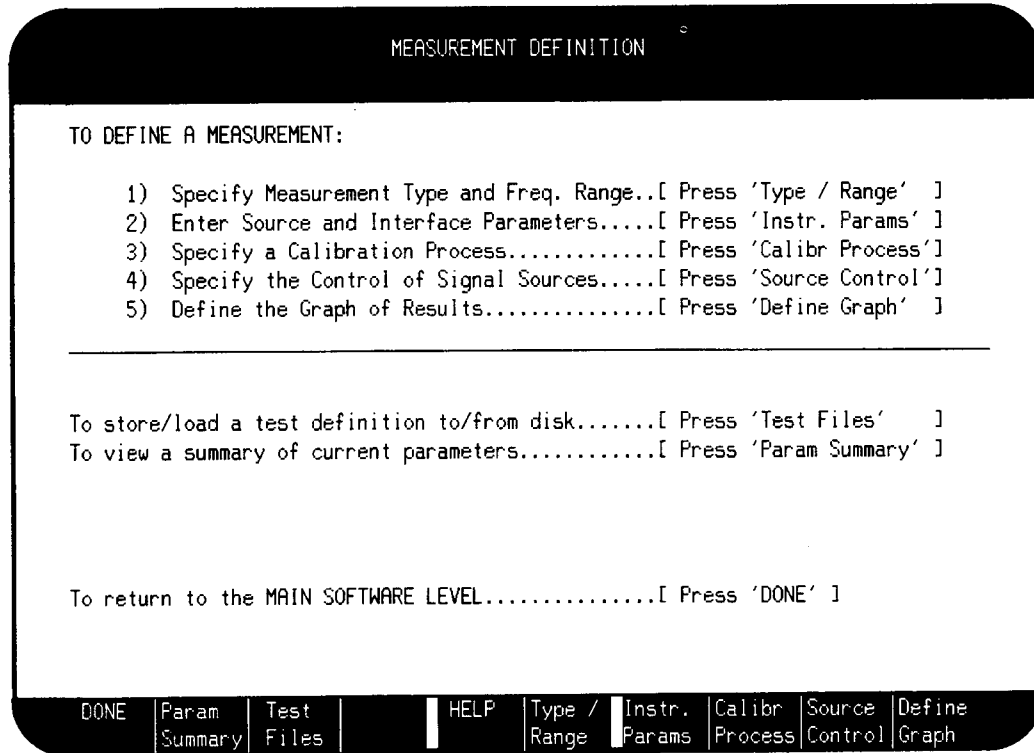

Figure 3-6. Measurement Definition Menu
- 5. On the HP 3048A press the **Define Msrmnt** softkey to obtain the Measurement Definition menu. Refer to figure 3-6.